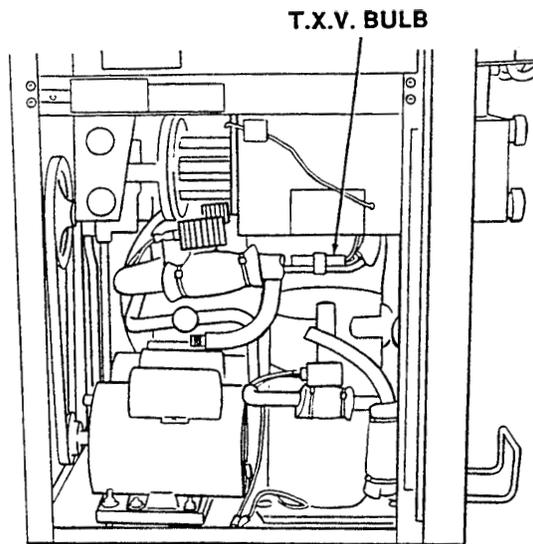

Figure 36. Bulb Removal
1. Remove the two Phillips head screws from the bottom of the left side panel and slide the panels down and out (Figure 36).
2. Remove the bulb from the suction line exiting from the evaporator (Figure 36).